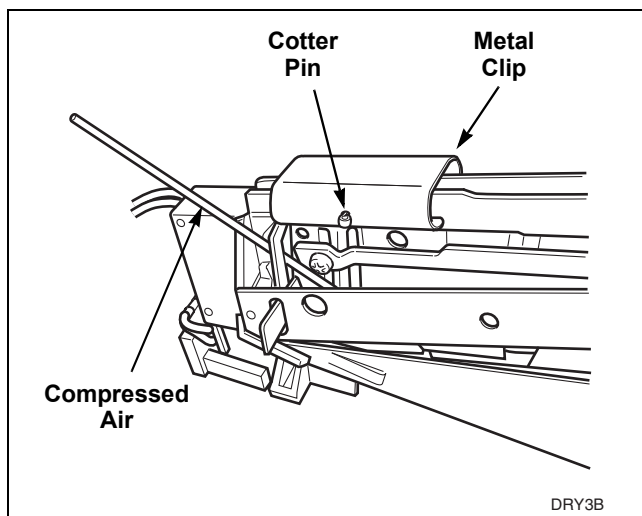

Figure 20
- If lint is preventing coins from rolling through coin drop, blow compressed air through coin entry and along the side of the coin drop. Refer to *Figure 20*.
- Remove cotter pin from top of drop. Refer to *Figure 20*. Save pin for reinstallation when cleaning is complete.
- Move metal clip closer to sensor so that it comes off frame. Refer to *Figure 20*.